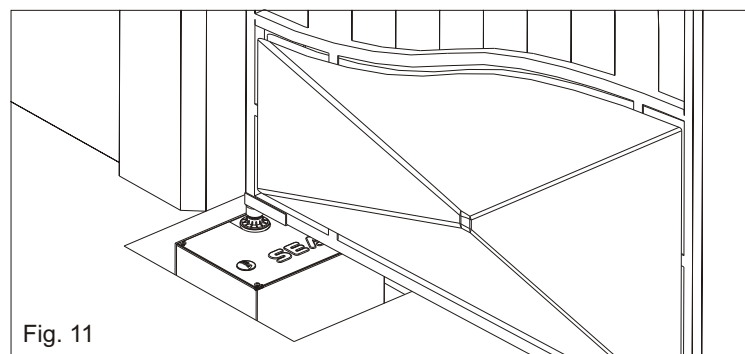

Fig. 11
3.7. Place the gate leaves on the U-shaped iron (Fig. 11) and connect them to the hinges in the upper part.